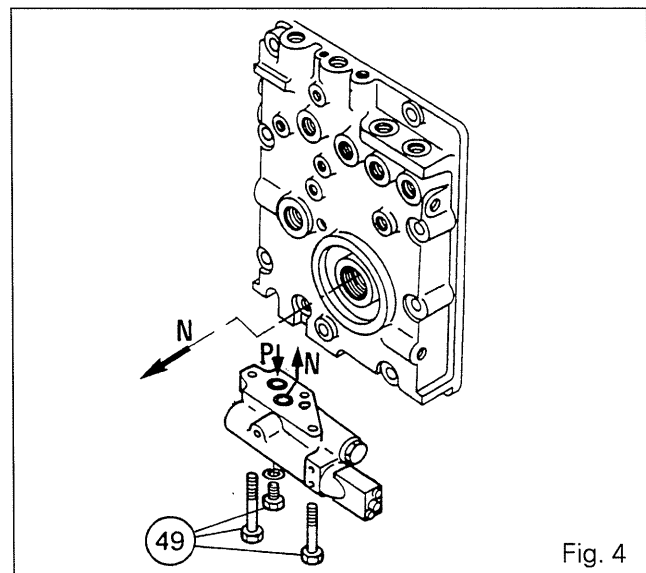

Fig. 4
In all the trailer braking valve operating positions, the auxiliary spool valves and the lift control valve can be freely adjusted via the port **N** on the cover (Fig. 4) without causing any major effect on the trailer braking system. This system takes priority over the high-flow hydraulic circuit.
2. Remove the screw (49) (Fig. 4) and remove the valve.
5. Refit the valve, and fit and tighten the bolts (49) (Fig. 4) to a torque of between 25 and 35 Nm.